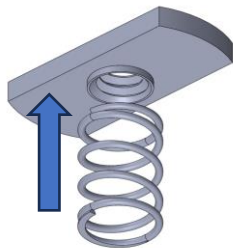

Figure 3: Combining the Spring with the Track Nut
4. Install spring onto track nut and insert into crossbars to fasten panels down (see Figure 3 - Figure 4).